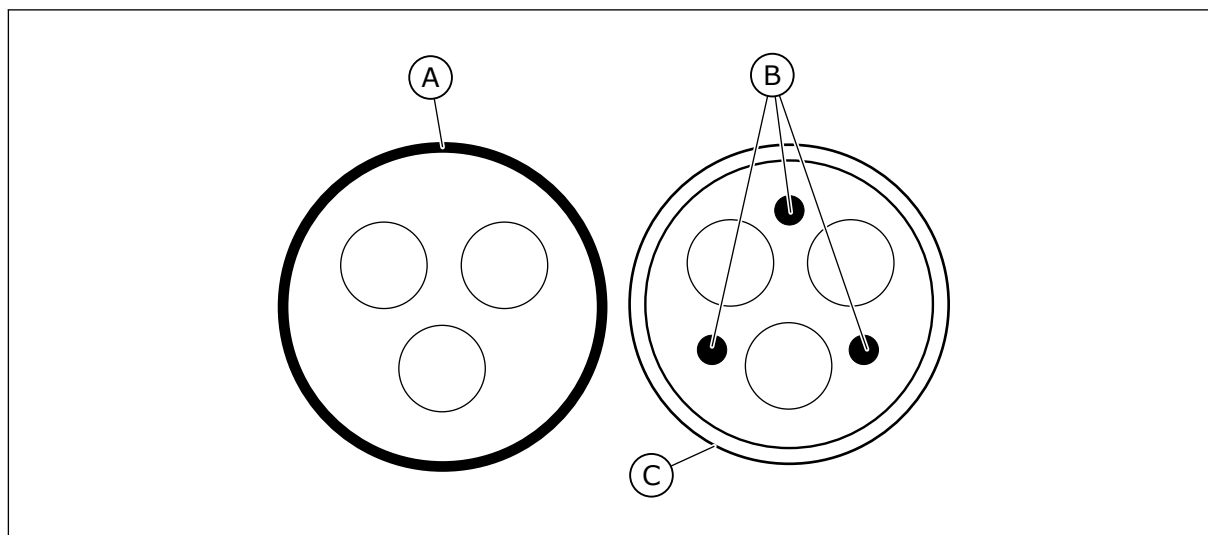

Fig. 22: Cables with PE conductors
2. A symmetrical power cable with a concentric protection wire. A cable for the specified mains voltage. We recommend an MCMK cable. See Fig. 22.
3. A symmetrical power cable with a compact low-impedance shield. A cable for the specified mains voltage. We recommend an MCCMK, or an EMCCK cable. We recommend that the cable transfer impedance [1...30MHz] is a maximum of 100 mΩ/m. See Fig. 22. \* = For the EMC level C2, it is necessary to have a 360° earthing of the shield with cable glands in the motor end.